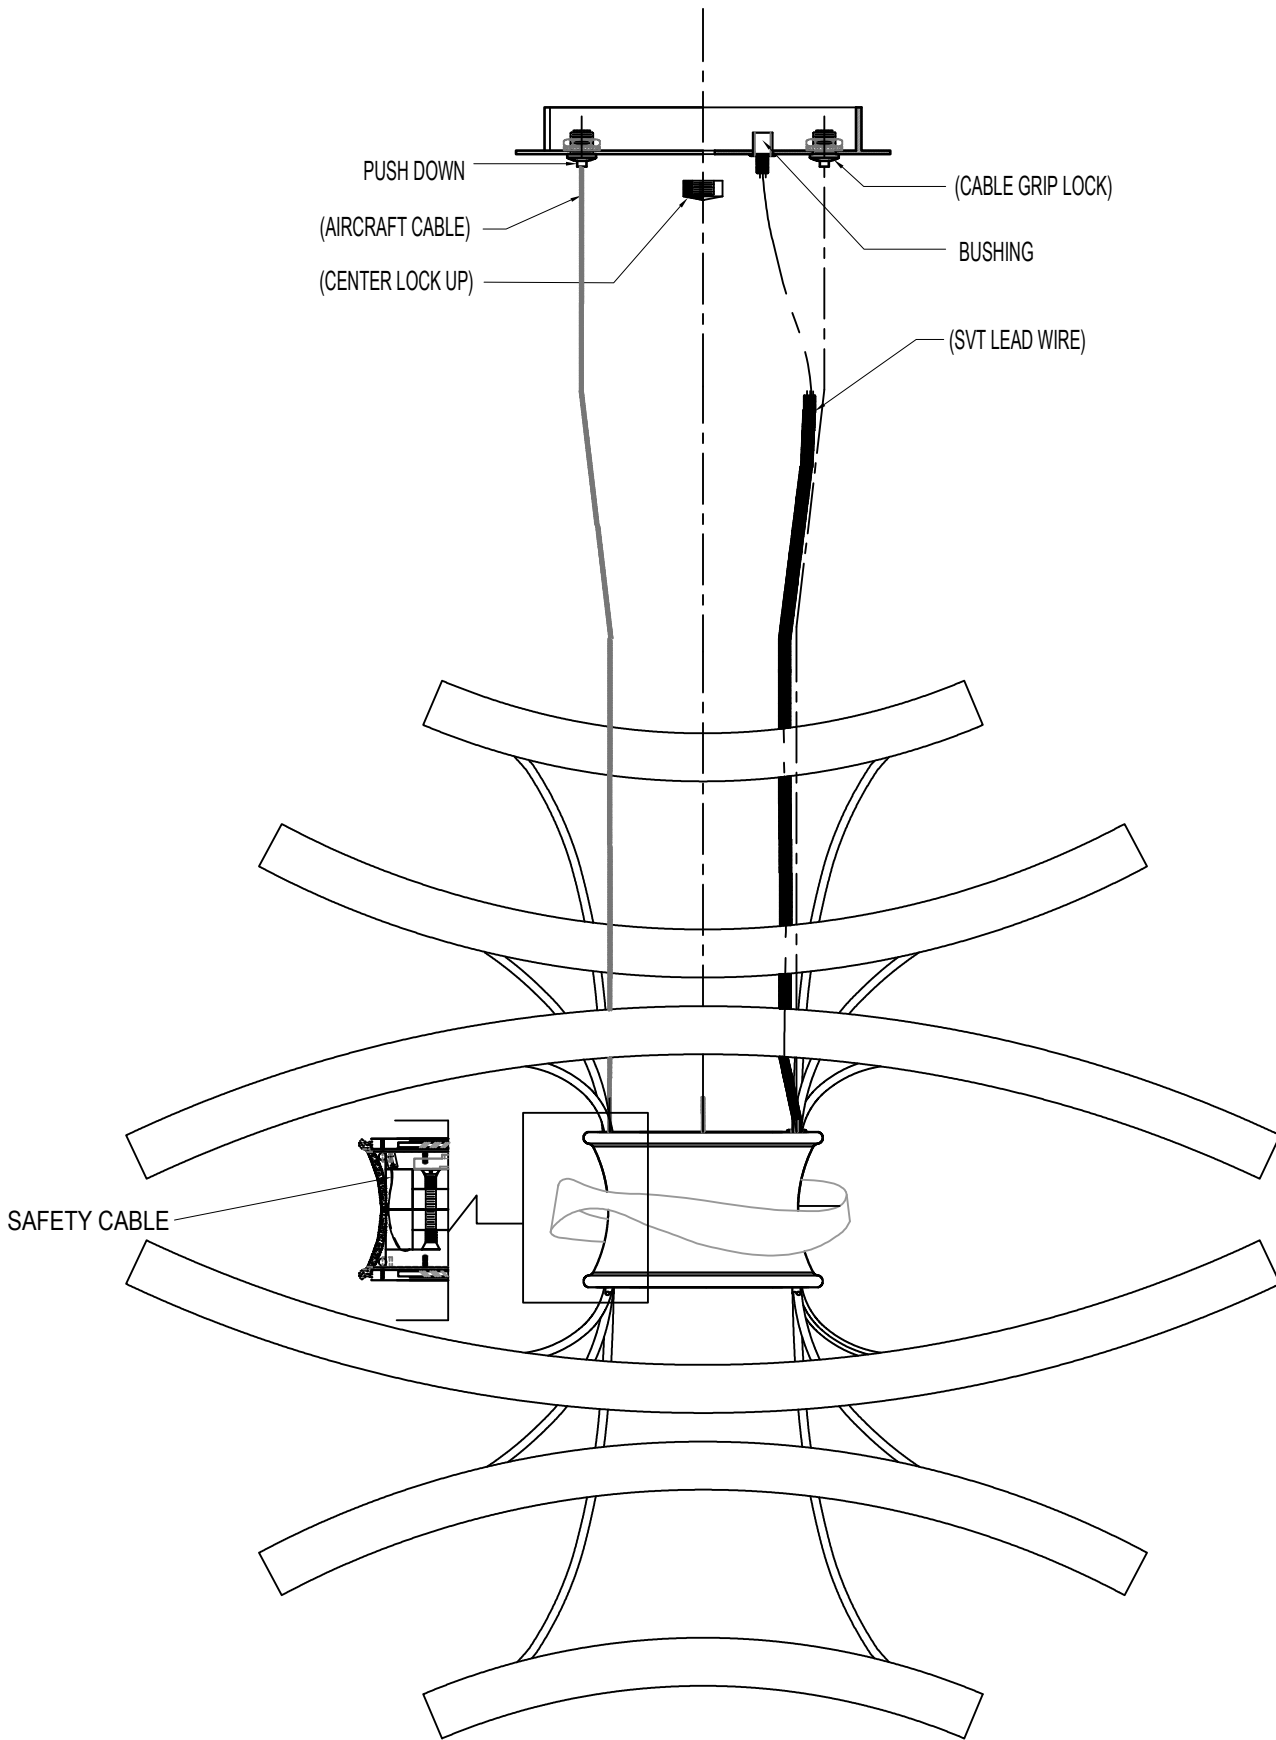

FIGURE- 4
3. To change the drop height based on your desired height, push the tab down on the grip post either pull or push the aircraft cable. Repeat this to all aircraft cable until the fixture is level and with the desired height. (Refer to Figure-4)
4. Adjust the SVT wire base on the desired height. Pull/push the SVT wire to the bushing and leave 8" lead wire above the canopy and cut the excess wire. (Refer to Figure-4)